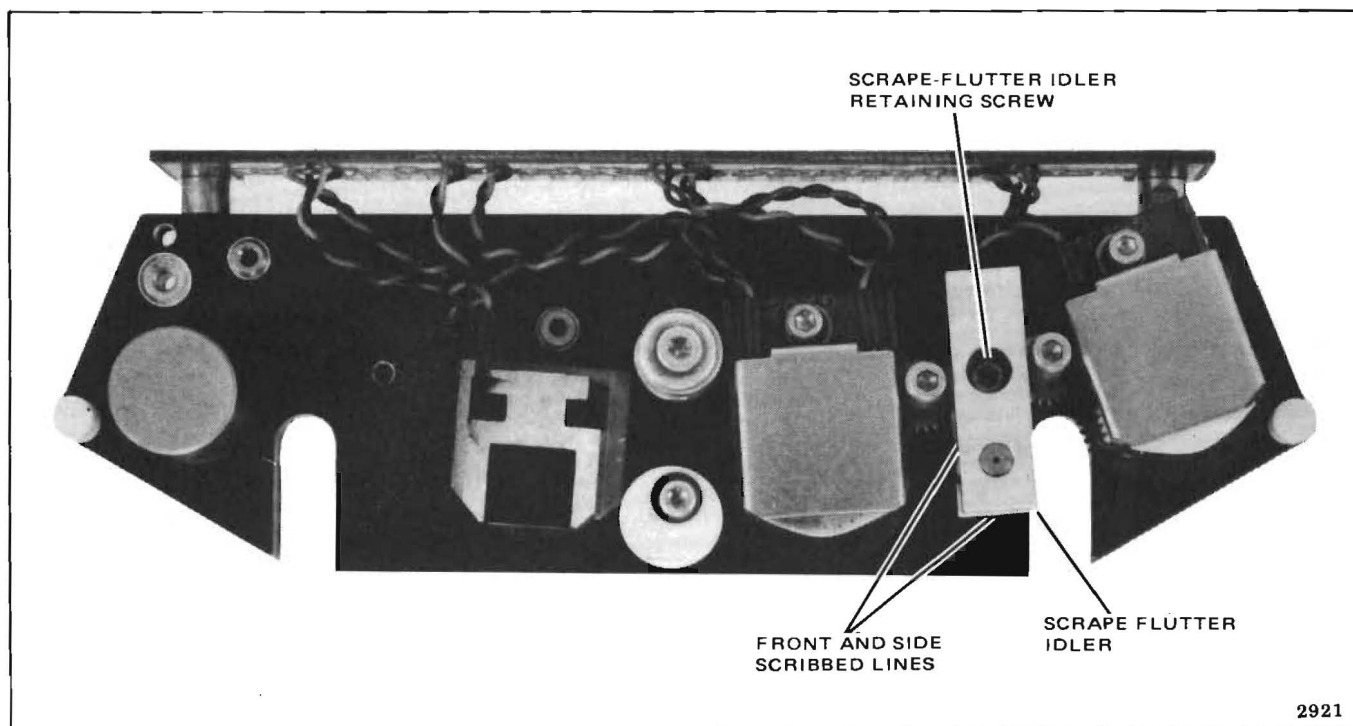

Figure 5-1. Top View of Head Assembly, Head Shield Removed
3. Loosen scrape flutter idler retaining screw shown in Figure 5-1 and remove idler from head assembly base.
6. With upper bearing clamp screw still loose, remount idler onto the head base plate with front and side of yoke even with the two scribed lines on the base plate (Figure 5-1).